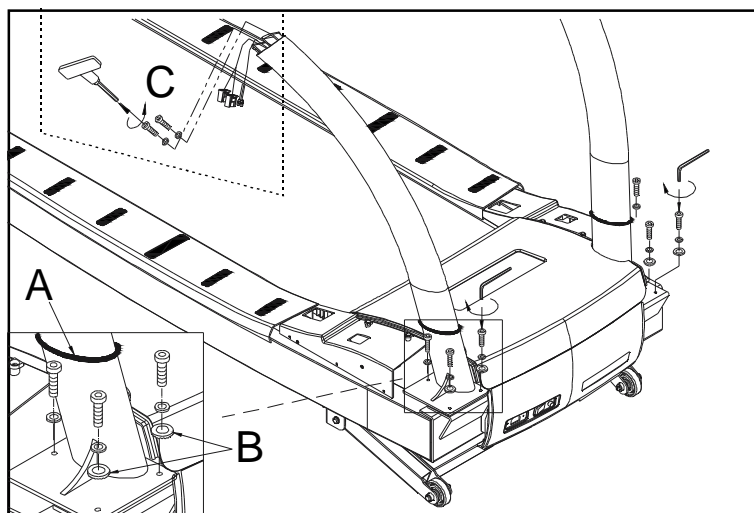

Fig.2
**STEP 2.** First, thread the data cable through the right pedestal. Then hold the right pedestal onto the support bracket on the right side of the treadmill. Secure the right pedestal by fastening the bolts with washers as shown. Hold the left pedestal onto the support bracket on the left side of the treadmill. Secure it by fastening the bolts with washers as shown. At this point, do NOT tighten these bolts securely. Leave them slightly loose so that the display can fit snugly. Tighten these bolts firmly after the display is attached. Then, use the HEX ALLEN WRENCH (M6) to take down the screw and washers on the top of the pedestal (C). (See Fig. 2.)